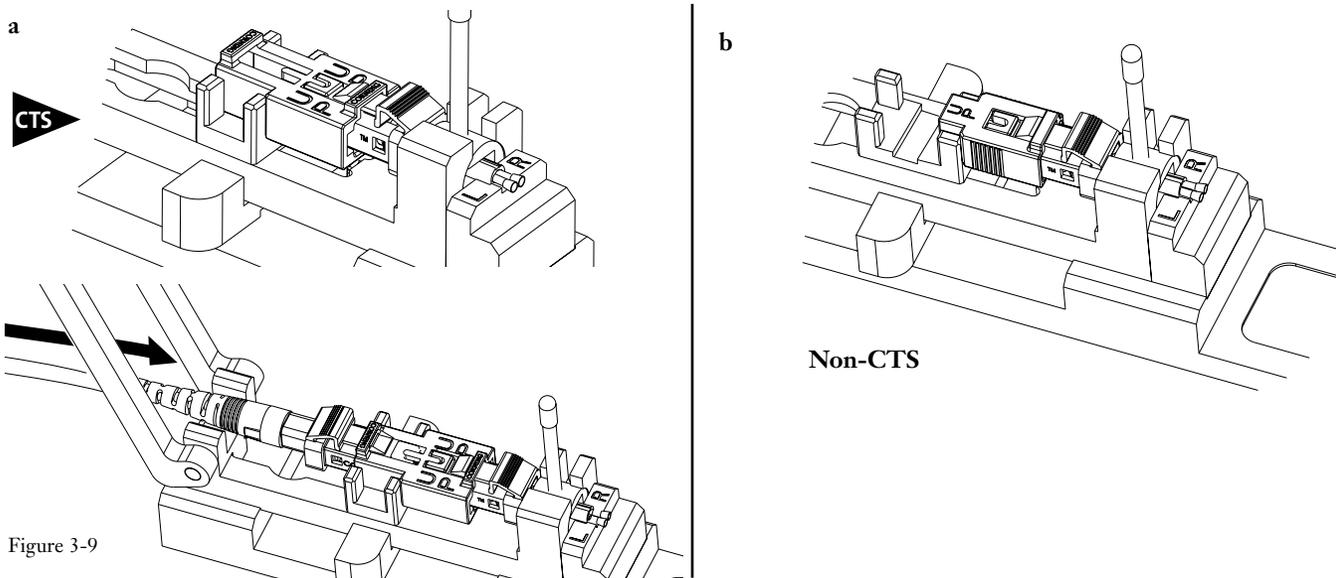

Figure 3-9
1. Slowly release the slider handle and guide the CTS coupler into the slider as shown in Figure 3-9 a, top view.
2. Guide the CTS jumper through the arms of the crimp handle, and plug the CTS jumper into the front of the CTS coupler. Make sure the jumper latches into the coupler (Figure 3-9 a, lower view).